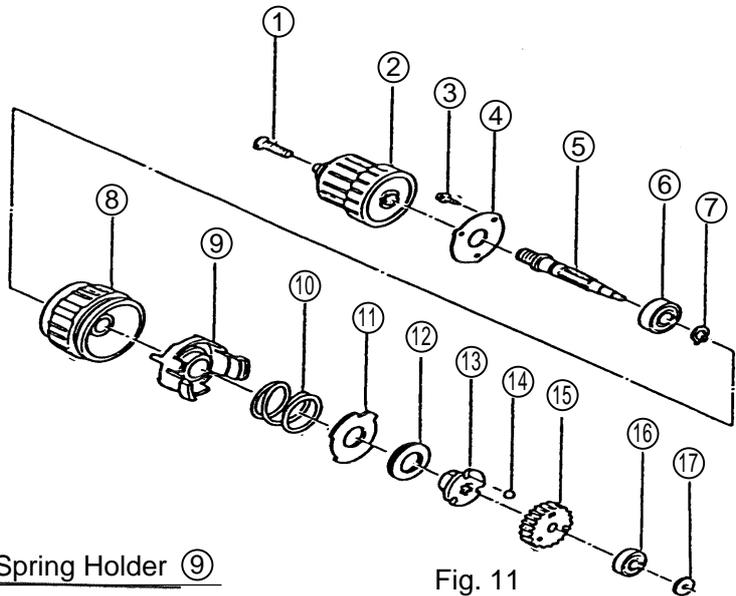

Fig. 11
(3) Reassembly of the Clutch Portion:
- [1] Beginning with the M5 x 17 Flat Hd. Screw (Left Hand) ①, assemble the Cap ⑧. (Fig. 11)
- [2] To the parts assembled in Para. [1], above, assemble the parts from the Spring Holder ⑨ to the Washer ㉗ in proper sequence.